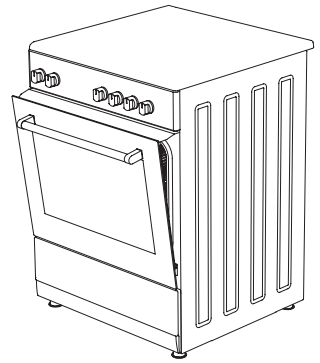

Figure 27
4. And then secure the safety panel in between oven and front cover by gently closing the cover. (figure 27)